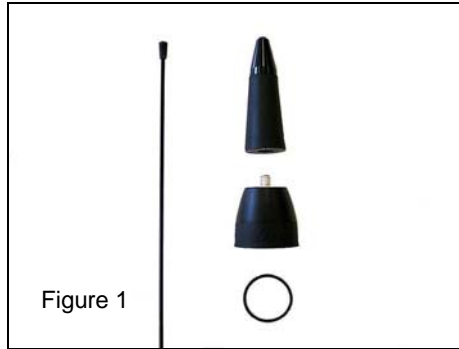

Figure 1
**1. Parts (Figure 1):**
Verify all parts are included with the Antenna as shown in Figure 1.